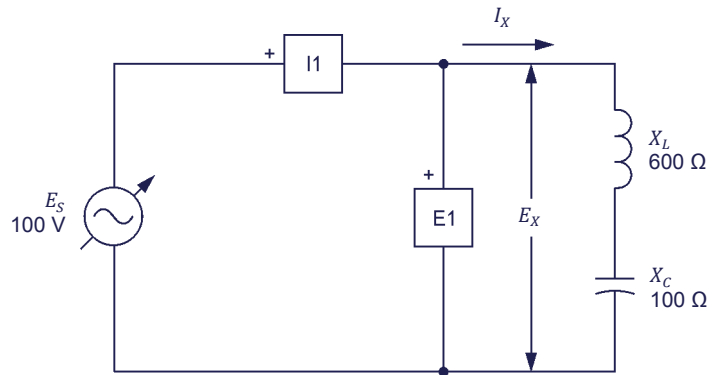

Figure 2-16. Series ac circuit containing an inductor and a capacitor.
6. Set up the circuit shown in Figure 2-16.
In this section, you will calculate the equivalent reactance $X_{Equi.}$ of the reactive components in the circuit of Figure 2-16. You will measure the voltage E_X and current I_X and calculate the equivalent reactance $X_{Equi.}$ from these values. Using the Oscilloscope, you will determine the phase relationship between the voltage E_X and current I_X and whether the equivalent reactance is inductive or capacitive. You will then interchange the inductive and capacitive reactance values in the circuit and repeat the previous manipulations. You will determine the relationship between the polarity of the equivalent reactance $X_{Equi.}$ of the reactive components and the nature of the equivalent reactance (inductive or capacitive).